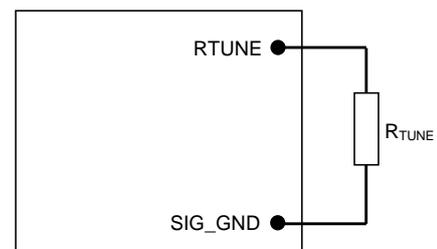

Figure 35. Circuit diagram showing connection of  $R_{TUNE}$  to tune the control loop of the module.
1. By allowing the user to select among several pre-tuned compensation choices to select the one most suited to the transient response needs of the load. This selection is made via a resistor RTune connected between the RTUNE and SIG\_GND pins as shown in Fig. 35. Table 2 shows various pre-tuned compensation combinations recommended for various external capacitor combinations.